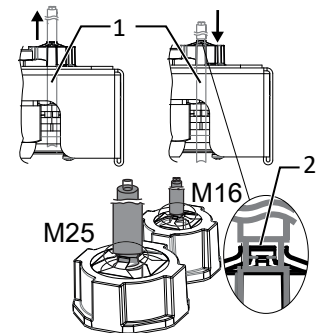

Fig. 41: Connecting the shield to the EMC screw fitting
1. Open and close the door completely to check that the cables (1) are not subject to tensile or compressive forces.
2. Mark the position for connecting the shield on the clamping ring (2) of the EMC screw fitting.
4. Pull the cables back to the shielding point until full shielding is provided by the clamping ring and the connecting cable cannot be displaced. [See figure 41 [▶ Page 34]]